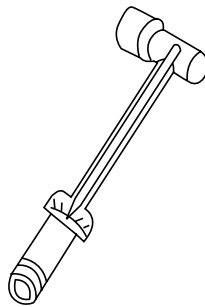

Fig 21. Torque Wrench
1. Start all wheel lug nuts by hand using a Torque Wrench (Figure 21).